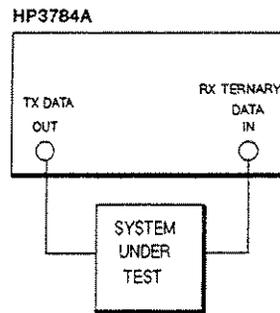

Figure 3-8 Equipment Setup
5. Now connect the equipment as shown below in Figure 3-8.